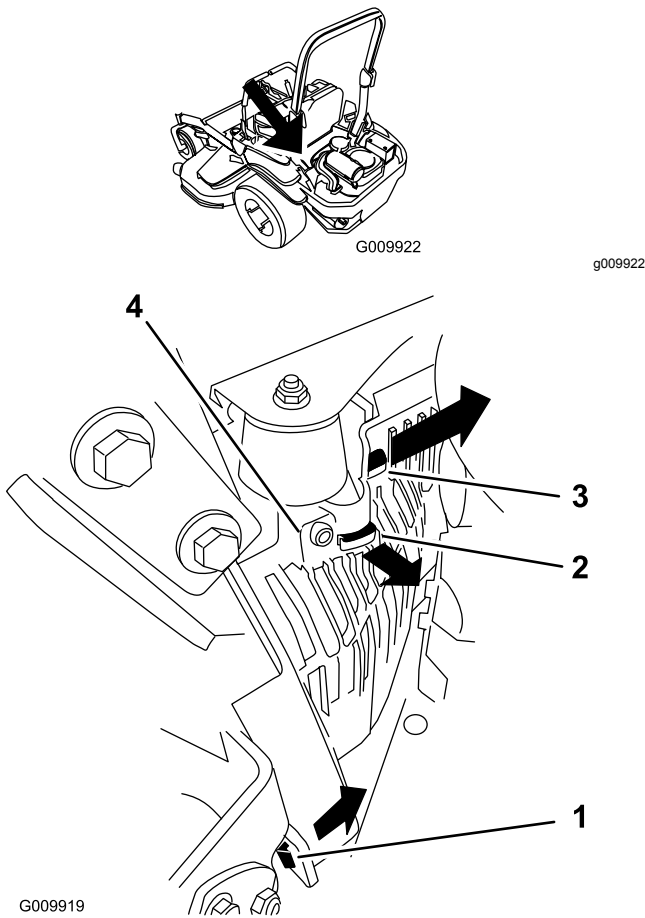

Figure 54
3. Remove the left-hand hydraulic unit shroud in the order listed with Figure 54.
5. Install the left hydraulic-unit shroud (Figure 54).